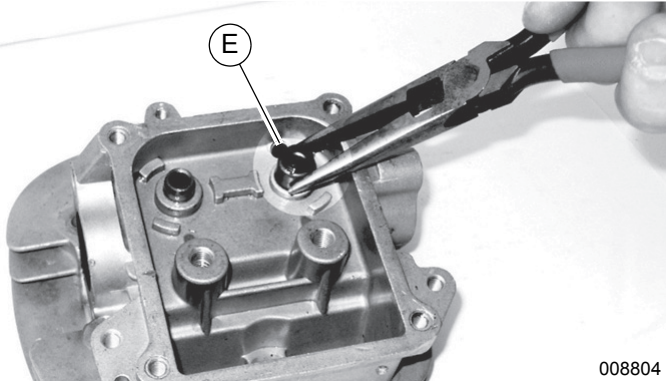

Figure 7-6. Remove Valve Stem Seals
3. See Figure 7-6. Remove and discard two valve stem seals (E).